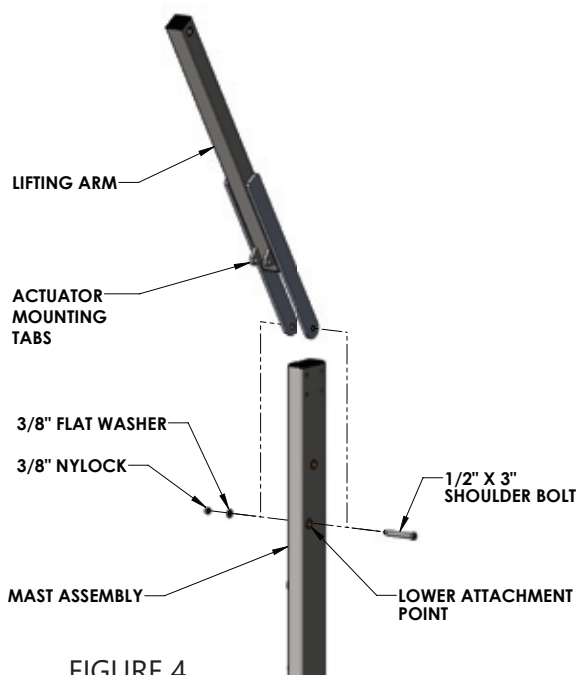

FIGURE 4
3. Attach the lifting arm (identified by the two actuator mounting tabs opposed to the control arm which has no tabs) to the mast assembly using the 1/2 inch shoulder bolt and 3/8 inch nylock and flat washer. Be sure the actuator mounting tabs on the lifting arm are facing downward. See FIGURE 4.